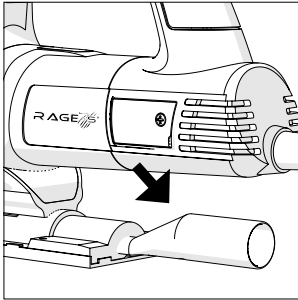

Fig 7
- Withdraw the Dust Extraction Adaptor tube, if fitted, and store safely for future installation. (**Fig. 7**)